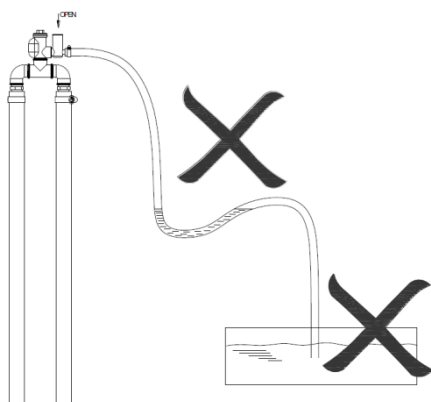

Figure 13: Wrong siphon breaker hose routing (non-WhisperPower siphon breaker)
Use an appropriate water strainer with connections of well accessible position, 5 cm above the waterline (Figure 13, ref. 6).
The exhaust hose descends from the capsule to the water lock. Then the hose rises via the "goose neck" to the through-hull exhaust outlet, situated minimum 50 mm above the water line (Figure 13, ref 5). The "goose neck" must be vertical and situated preferable along the ship's keel centre line. If the generating set is mounted less than 600 mm (24") above the waterline, a "goose neck" must be installed to prevent the engine from overflowing. It is recommended to install an extra muffler close to the through-hull fitting.